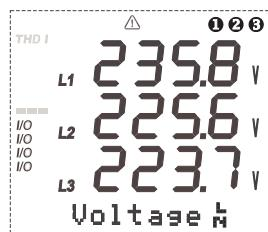

Figure 1: The existence of three phases on LCD.
① ② ③ indicators indicate the existence of the three phases. (**See Figure 1**)